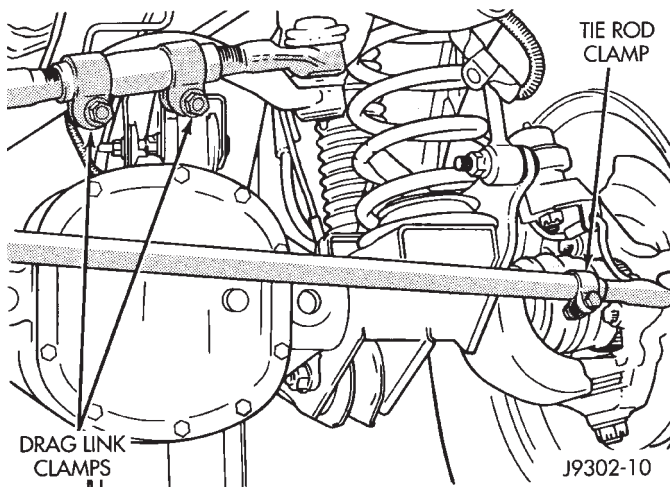

Fig. 3 Tie Rod/Drag Link Clamp Bolt
(1) Install the drag link adjustment sleeve and tie rod end. Position clamp bolts as shown (Fig. 3).